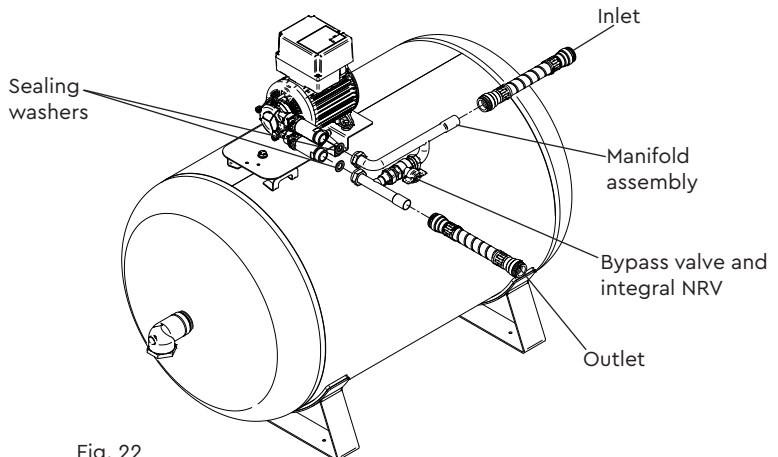

Fig. 22
- d) Connect the supplied hoses, Fig. 22.